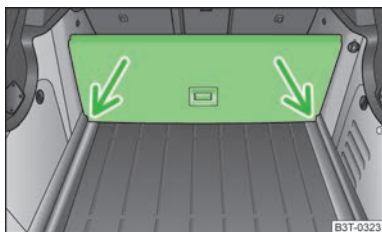

Fig. 70
- › Lift up the part with the holder and secure it by sliding it into the grooves marked with the arrows » Fig. 70.